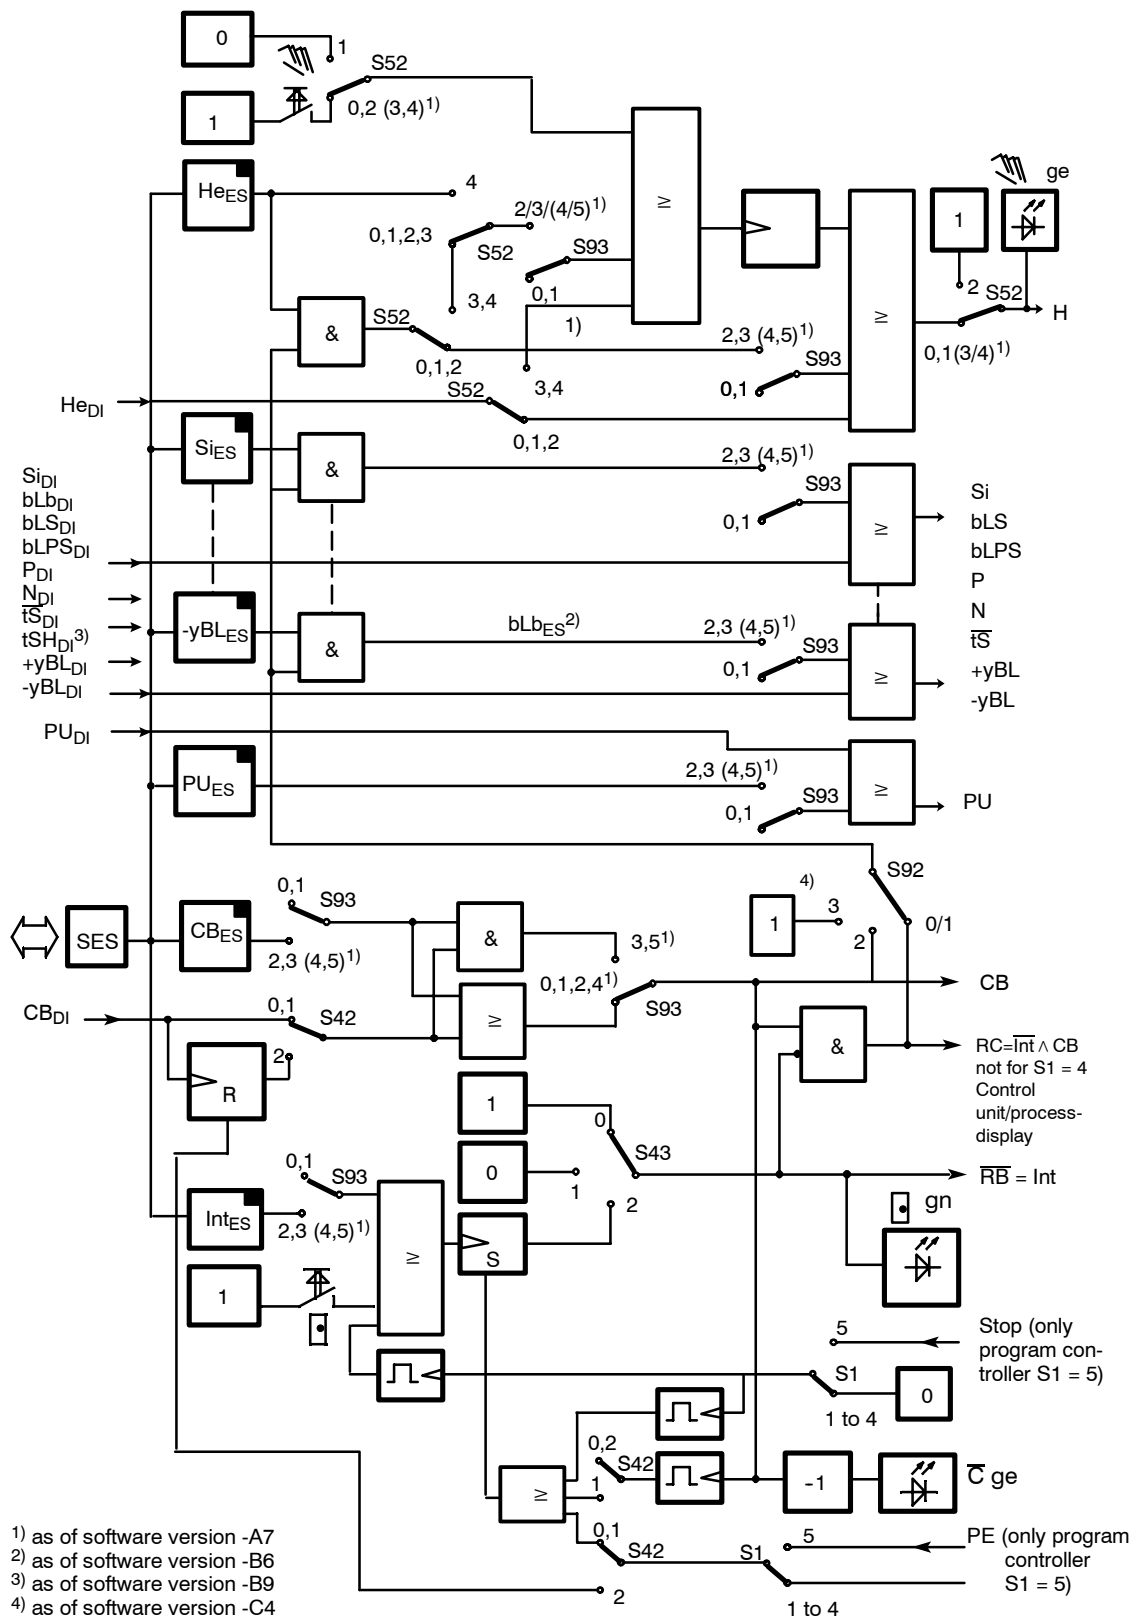

Figure 3-3 Linking the digital inputs DI with the control signals via the SES (S42, S43, S52, S93)
see figure 3-3, page 63
With $S43$ the internal/external key (13) can be deactivated and blocked in the settings internal or external (see figure 3-3, page 63). The factory setting is $S42 = 0$ (only internal).